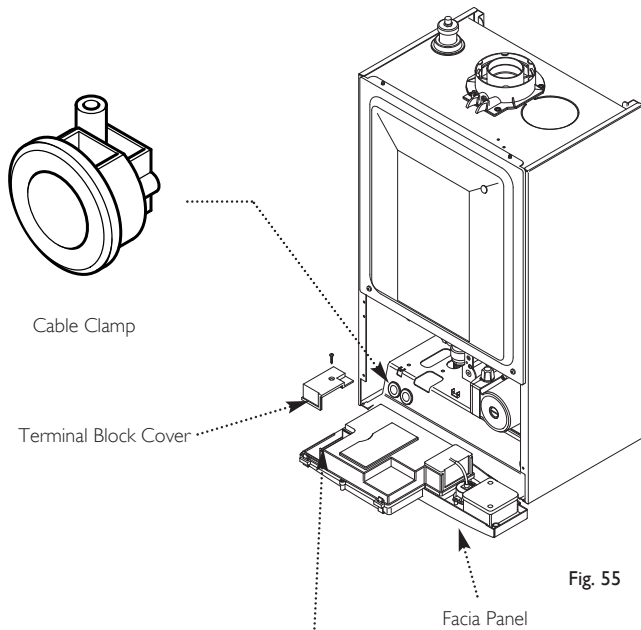

Fig. 55
2. Completely undo the screws securing the fascia panel and hinge it down (Fig. 55).
3. Undo the terminal block cover securing screw and remove the cover (Fig. 55).